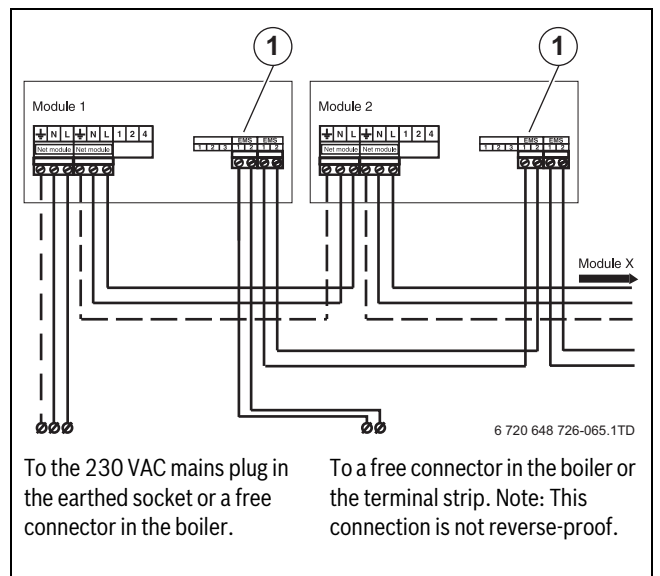

Fig. 65 Connecting several modules
- ▶ If more modules are used, the EMS bus connection for the second module may be branched off from the first module using the cable enclosed with the module (→ fig. 65 and 66).
- ▶ Connect the wire from terminal 1 to terminal 1 and from terminal 2 to terminal 2 (→ fig. 65 and 66).
- ▶ Connect the other end of the EMS bus connection cable to the first module (→ fig. 65).
**i** The module may have the letters RC or EMS above the connection (→ fig. 65, [1]).
- ▶ Connect the EMS bus connection lead of the first module to the next module (→ fig. 65).
- ▶ Connect the 230 VAC mains cable to the module (→ fig. 65). If more modules are used, the 230 VAC supply to the next module can be branched off from the previous module using the connector enclosed with the module and a 3-core 0.75-mm2 current cable with an earthing wire.
- ▶ Connect the 230 VAC supply cable of the previous module to the next module (→ fig. 65).